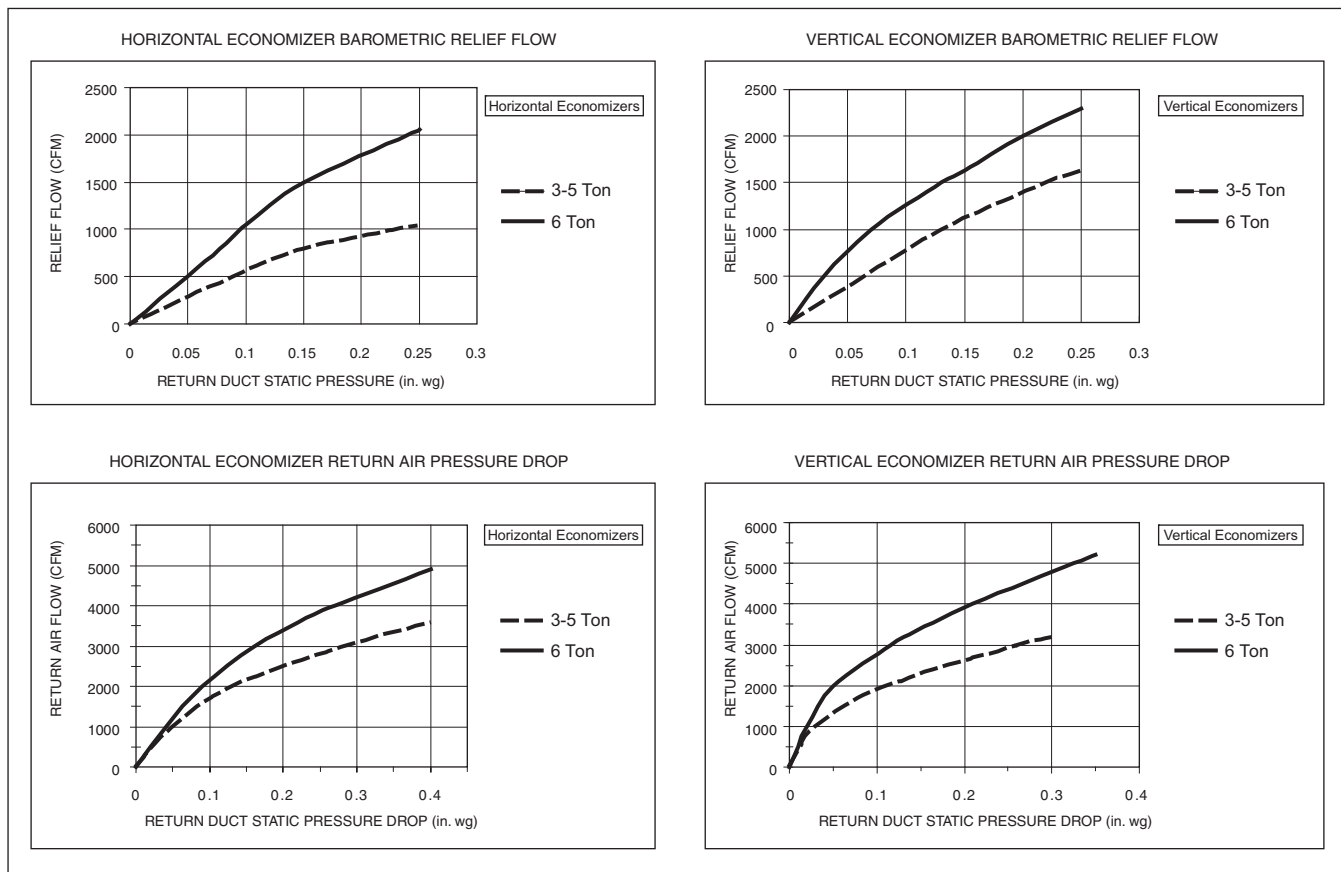

Fig. 62 — Outdoor-Air Damper Leakage
The standard controller is shipped from the factory configured for outdoor dry bulb changeover control. For this control mode, the outdoor temperature is compared to a selectable set point on the OAT sensor. If the outdoor air temperature is above the set point, the EconoMiSer IV will adjust the outdoor air dampers to minimum position. If the outdoor air temperature is below the set point, the position of the outdoor air dampers will be controlled to provide free cooling using outdoor air. When in this mode, the Free Cool LED next to the outdoor enthalpy set point (ABCD) potentiometer will be on. The changeover temperature set point is controlled by the dip switches on the sensor. See Fig. 61 for the switch positions corresponding to the temperature changeover values. The ABCD potentiometer on the controller should be turned fully clockwise (CW) to the “D” position. See Fig. 62 for damper leakage.